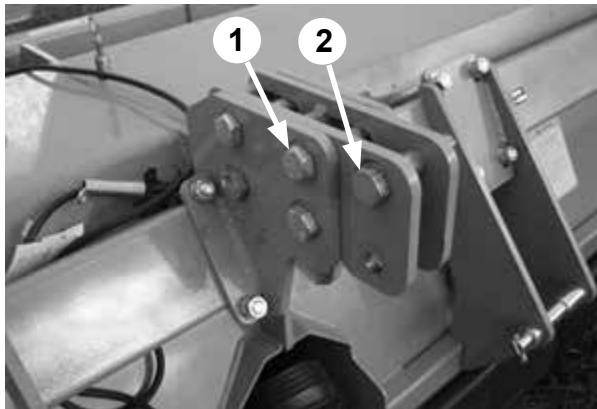

Figure 52. Floating Top Mast Installed
1. Fasten floating top mast (1) to shredder, using four 1 x 6" hex bolts and top lock nuts as shown in Figure 52. Be sure mast is free to slide forward.
2. Attach one upper 3-point 1 x 5" bolt, bushing, lock washer, and hex nut (2).